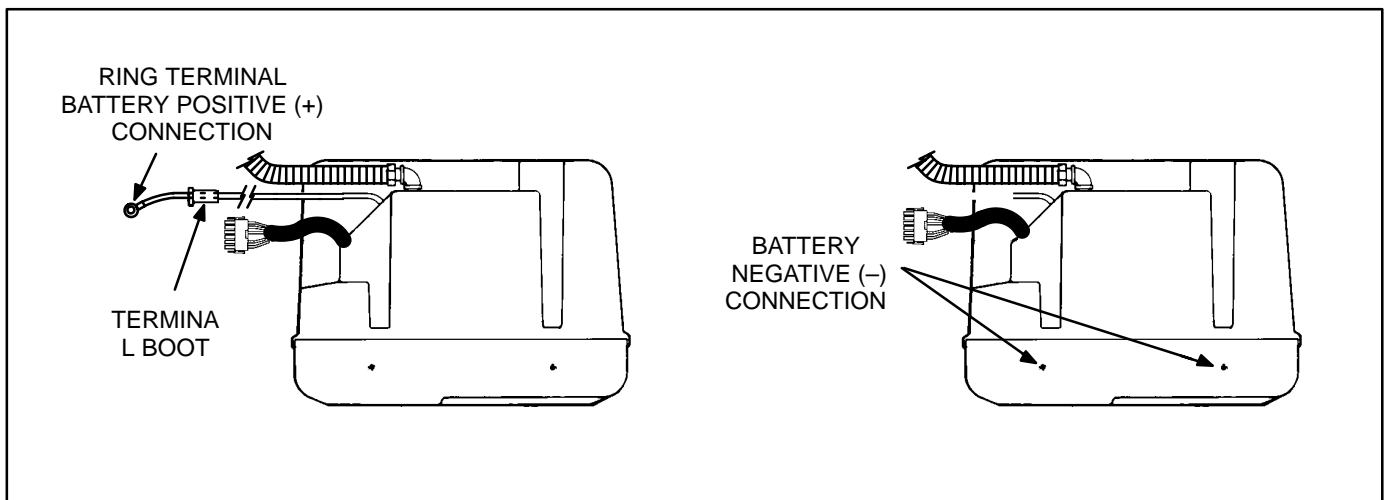

FIGURE 8-8. BATTERY CABLE CONNECTIONS
Negative (–) Battery Connection. Connect one end of the negative (–) battery cable to the genset ground. Tighten the ground connection securely (see Figure 8-8).
2. Connect one end of a short, negative (–) battery cable (of the same size as the positive (+) battery cable) to the vehicle frame near the genset. Connect the other end to the genset ground. See Figure 8-8.
Positive (+) Battery Connection. Refer to Figure 8-8 for the following steps:
The genset ground, as shown in Figure 8-8, is also the bonding terminal for grounding the genset to the vehicle frame (ground) when a continuous negative (-) battery cable is used from the battery directly to the genset. Connect an 8 AWG grounding wire from the vehicle frame to the genset ground.